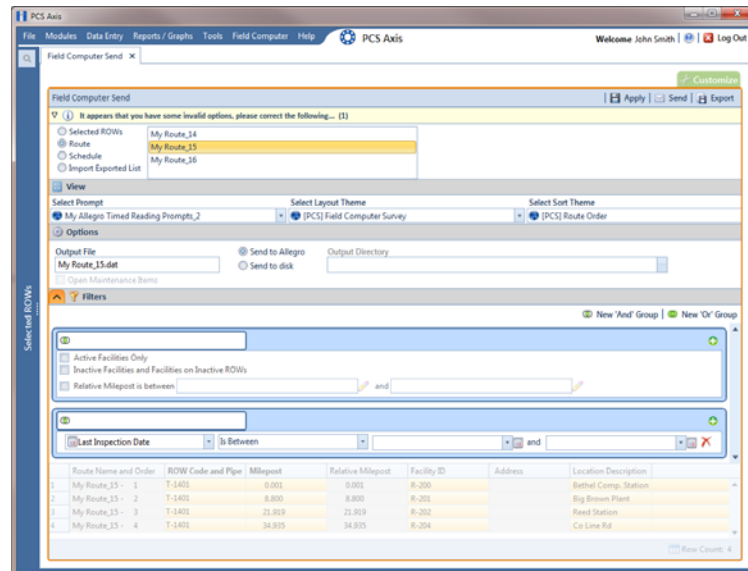

Figure 7-24. New 'And' Filter Group
- 24** To filter records in the grid and in the route sent to the Allegro based on a subset of records that meet *all* filter conditions, complete the following steps to add a new AND filter group (Figure 7-24, page 307):
NOTE: Clicking the  toggle button in the  information bar displays important information related to required settings (Figure 7-24).